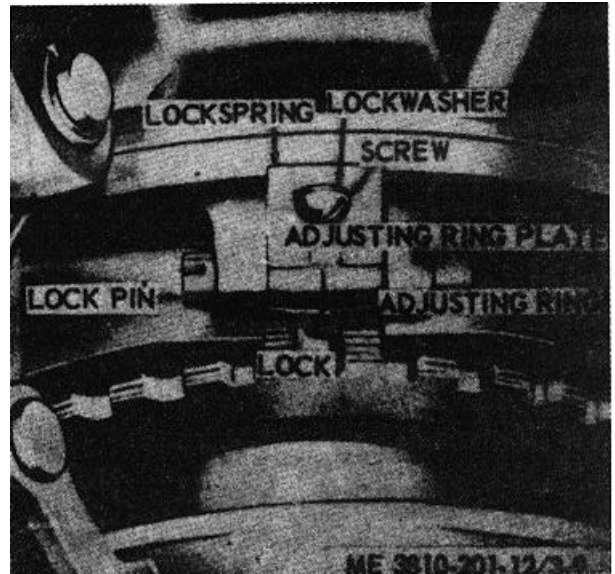

Figure 3-8. Engine clutch adjustment.
(2) Disengage the clutch (para 2-8) and turn pressure plate until lock (fig. 3-8) is up.
(3) Remove screw, lockwasher, and lock spring from the adjusting ring.
(4) Unlock the adjusting ring by turning lockpin 14 turn counterclockwise.
(5) Turn the adjusting ring clockwise to tighten clutch, counterclockwise to loosen.
(6) Test clutch by engaging clutch control lever. When the clutch is properly adjusted, a distinct pressure is required to engage clutch control lever.